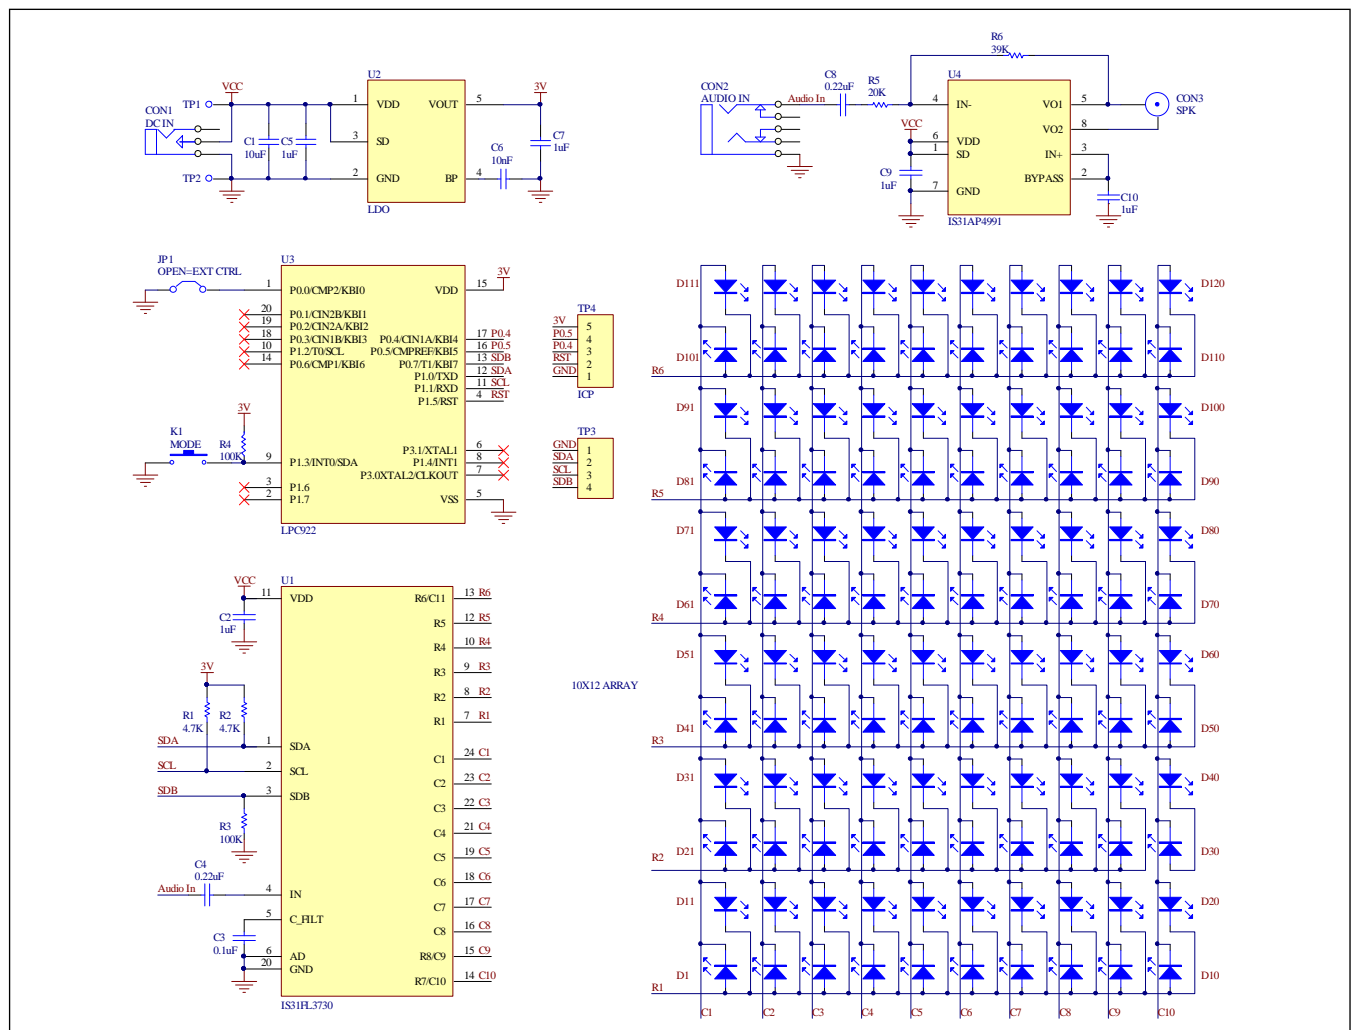

Figure 2: IS31FL3730 Application Schematic
*Table 2: Bill of Materials, refer to Figure 2 above.*